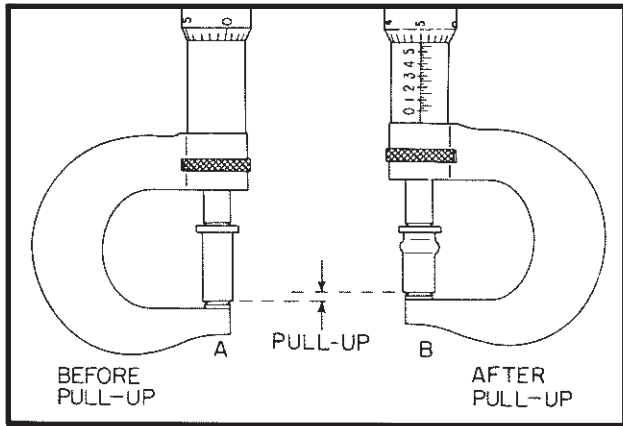

Figure 2. Measuring Rivnut Pull-Up
1. After the anvil adjustment is completed, measure and record over-all length of correct size Rivnut (A, figure 2).
4. Measure and record over-all length of the pulled-up Rivnut (B, figure 2). Record difference between measurement of Rivnut before pull-up (A, figure 2) and after pull-up (B, figure 2). This is the amount of pull-up for which the header is now adjusted. This information is essential to the next step of determining the amount of pull-up required.